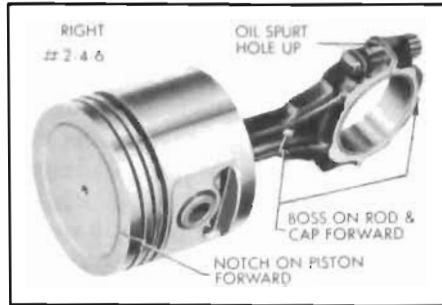

Figure 2-87—Right Bank Piston And Rod Assembly
3. If the piston and rod assembly is to be installed in the right bank, the assembly must be made as shown in Figure 2-87.